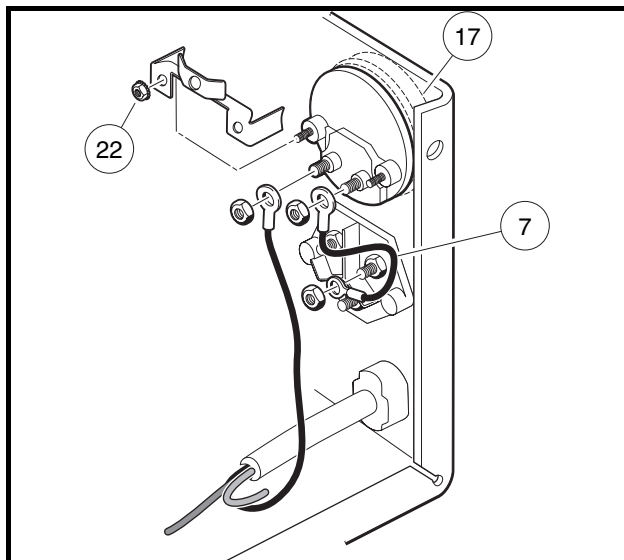

Figure 5-20 Ammeter
4. Remove the other transformer (tan) secondary coil wire from the bottom terminal of the heatsink and place the continuity test clip on the ammeter post with the short black jumper wire (7) (**Figure 5-20, Page 5-30**). Test for continuity between the jumper wire and each of the secondary coil wires (tan). The tester should indicate continuity on both secondary coil wires. If tester does not indicate continuity on both secondary coil wires, replace transformer. Ensure that the fuse is intact and not blown.
3. Using two wrenches to prevent the posts from turning, disconnect the two black wires from the ammeter (17) (**Figure 5-20, Page 5-30**).
4. Remove the two nuts (22) that secure the ammeter to the charger face.
1. Place the ammeter in position in the charger face (**Figure 5-20, Page 5-30**).
2. Install the nuts (22) and tighten until ammeter is firmly secured.